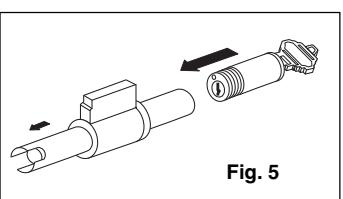

Fig. 5
1. With new key and cylinder plug rotated approximately 1/8 turn to the left or right, push cylinder plug against plug follower. Remember to maintain slow, consistent pressure against plug follower. (Fig. 5) This pressure will keep top pins and springs from popping loose. If any pins or springs do fall loose, remove plug follower and cylinder plug from cylinder housing and refer to step XX for instructions on reinserting top pins and springs.